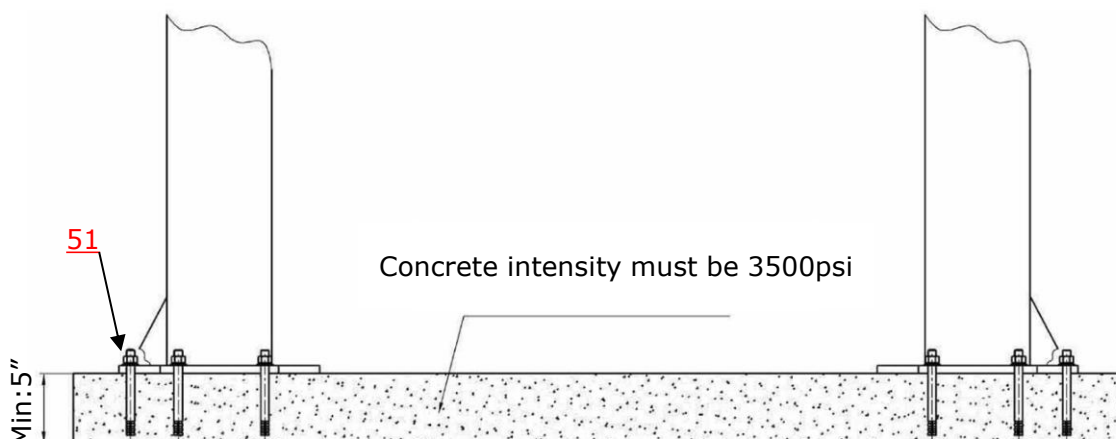

Fig. 7
D. SPECIFICATIONS OF CONCRETE (See Fig. 7)